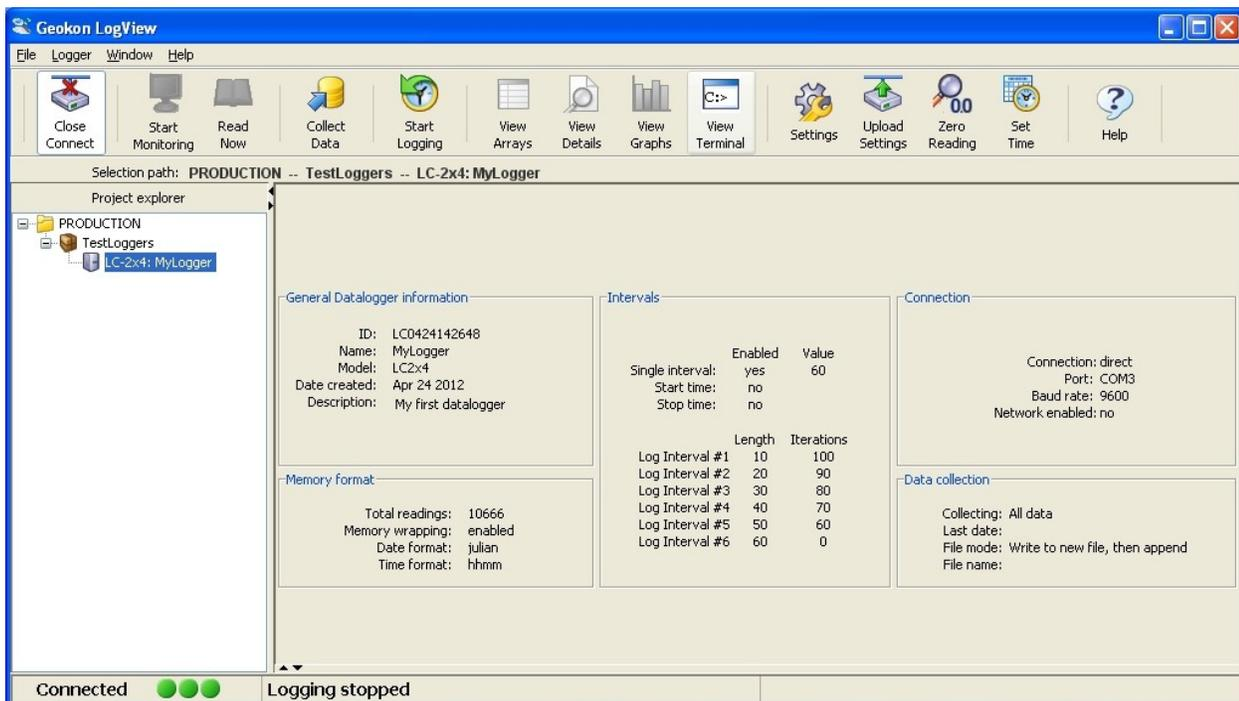

Figure 16 - Datalogger Connected
- 3) Click on the **“Upload Settings”** button on the LogView Toolbar to synchronize the datalogger with the LogView configuration (see Figure 16).